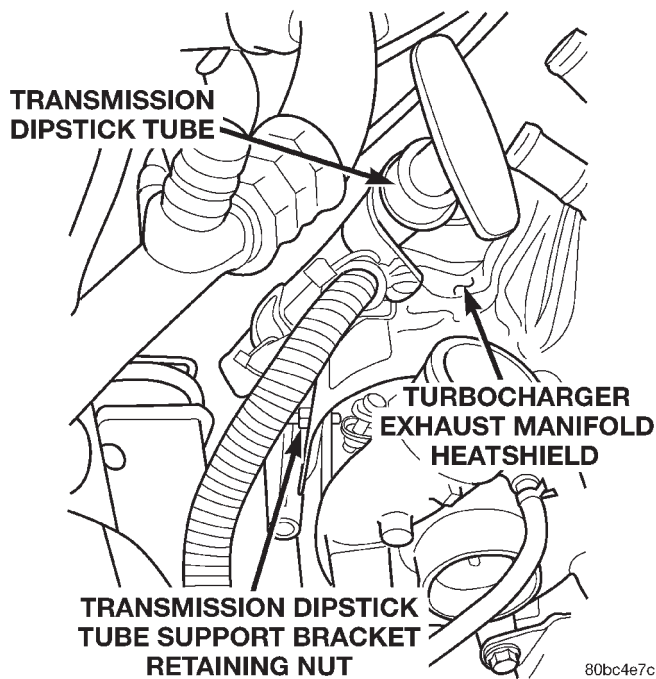

Fig. 23 Transmission Dipstick Tube Support Bracket
(4) Install the exhaust manifold heatshield. Torque bolts to 11 N·m (97 in. lbs.).
(5) Install the transmission dipstick tube support bracket retaining nut on the turbocharger heatshield (Fig. 23). Torque the nut to 11 N·m (97 in. lbs.).